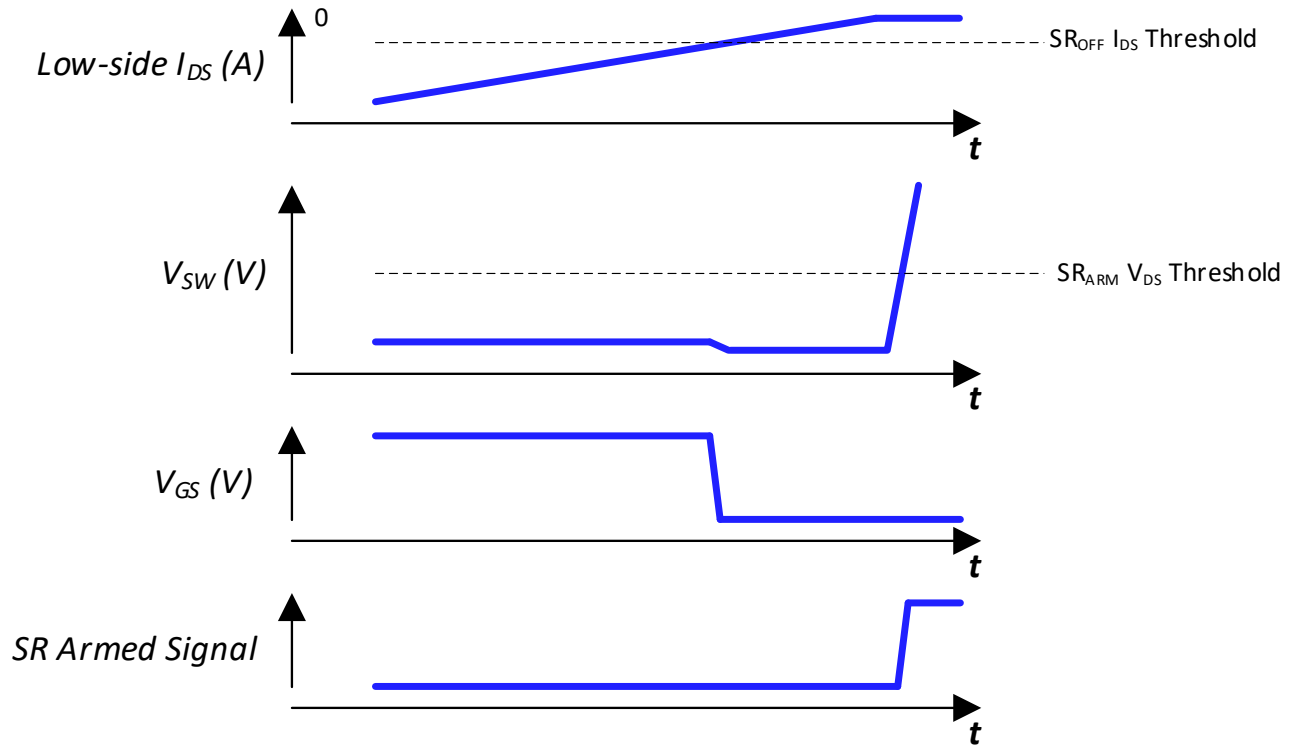

Fig. 35. SR turn-off timing diagram
3. Turn-off (See Fig. 35)
4. Re-arming (See Fig. 35)